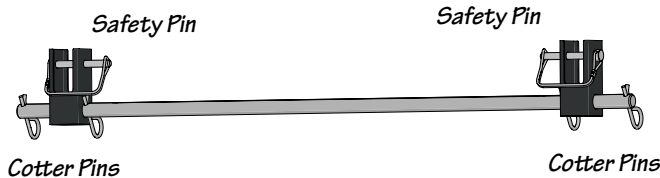

Fig. 12-2
- Locate the stabilizer support assembly from the stack pallet hardware kit. See Fig. 12-2.